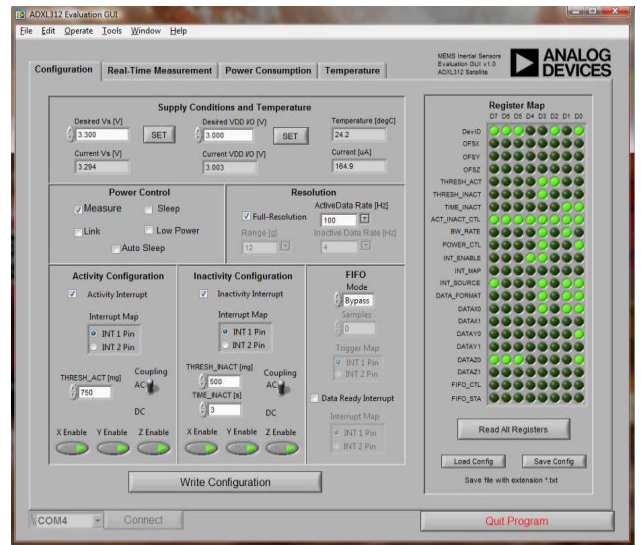

Figure 19. Configuration Panel with Sample Configuration
- The memory map contents are changed by interacting with the various front panel controls on the **Configuration** tab. The **Activity Configuration**, **Inactivity Configuration**, **FIFO Mode**, **Resolution**, and more can all be adjusted with these controls. When the desired configuration is achieved, click the **Write Configuration** button to transfer these settings to the ADXL312 memory map. The memory map then refreshes to show the contents that were just written. See Figure 19 for an image of the **Configuration** tab once the **Write Configuration** button has been clicked. Note that the configuration settings from this panel are preloaded (as needed) into the rest of the GUI.